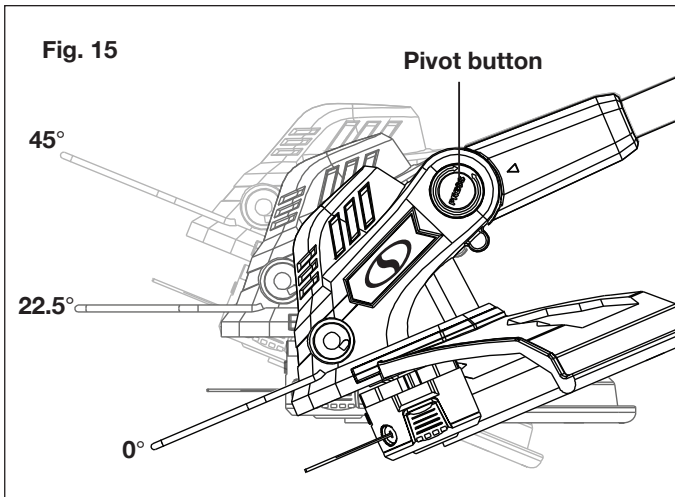

Fig. 15
2. Press the cutting head pivot button, meanwhile rotate the cutting head until it locks in your desired position. Release the button (Fig. 15).